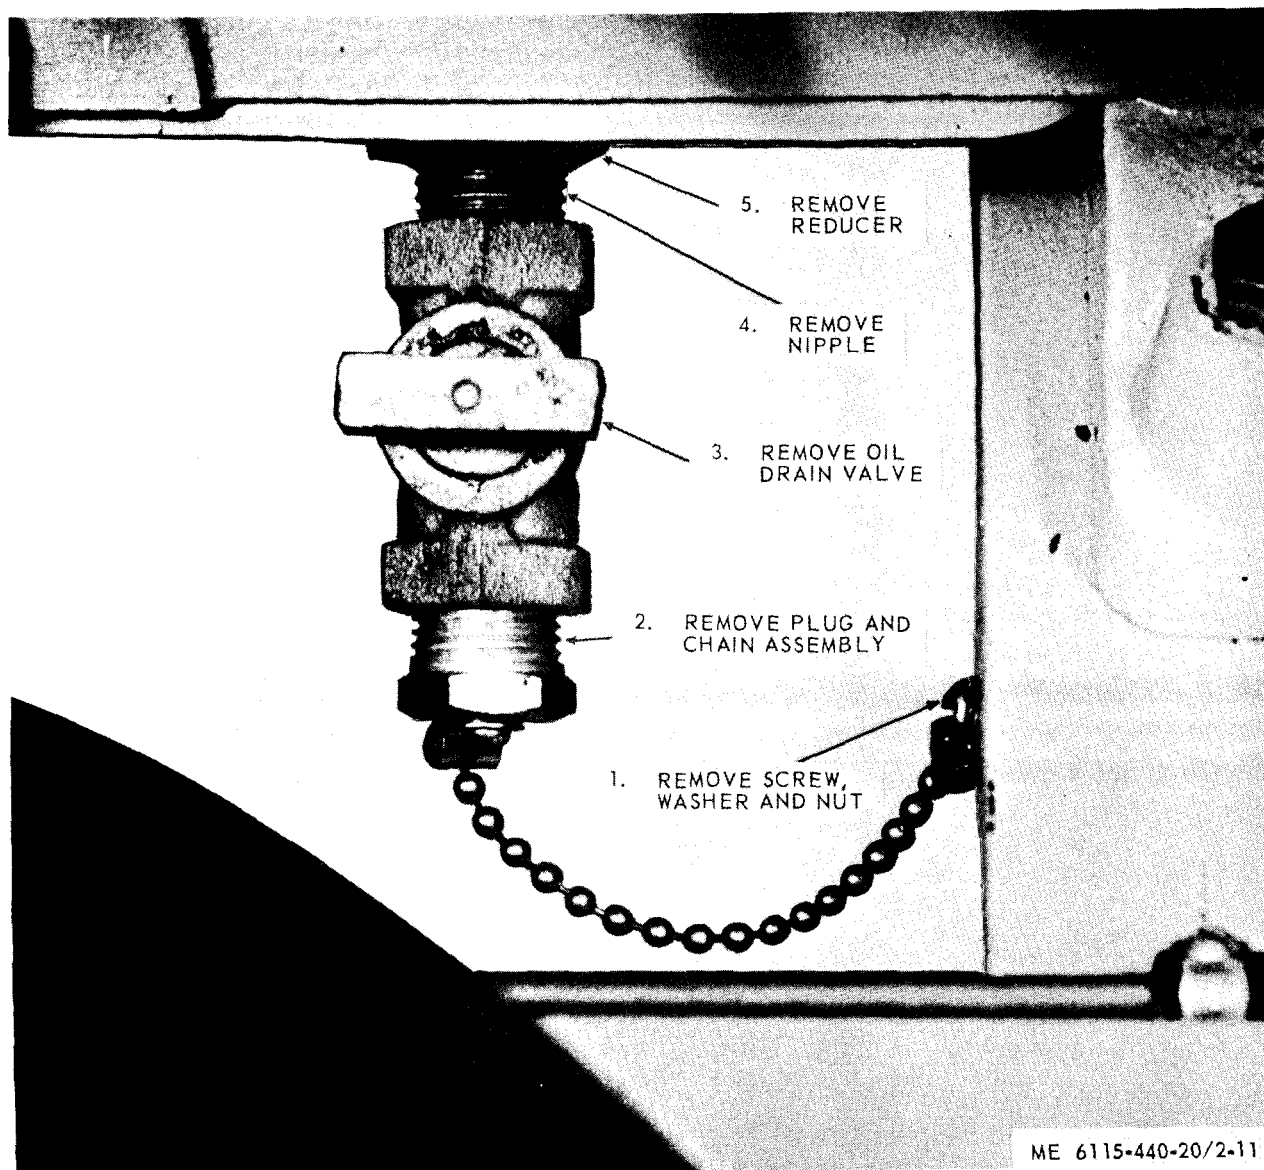

Figure 2-11. Oil drain assembly, removal and installation.
- (1) Open oil drain valve and drain oil into a suitable container.
- (2) Refer to figure 2-11 and remove oil drain assembly.
- (1) Refer to figure 2-11 and install the oil drain assembly.
- (2) Service the engine oil assembly in accordance with current lubrication order.